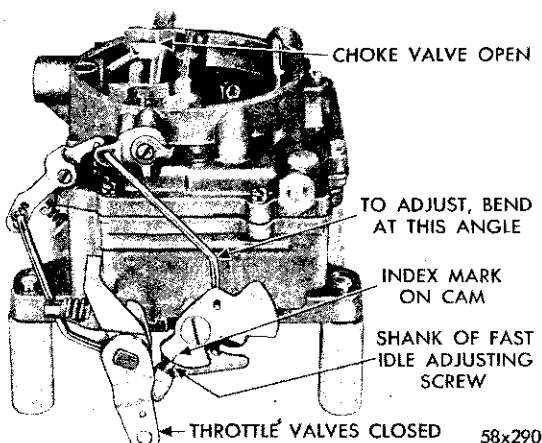

Fig. 34—Fast Idle Cam Indexing
(2) Invert the carburetor and open the throttle valves to wide open position. Close the choke valve tightly and then close the throttle valves. Release the choke valve. This will position the fast idle cam to fast idle. The index mark on the cam should split the center of the fast idle adjusting screw, as shown in Figure 34.
(3) If an adjustment is necessary, bend the fast idle connector rod at the angle, using Tool T109-213, until the index mark on the cam indexes the fast idle adjusting screw.